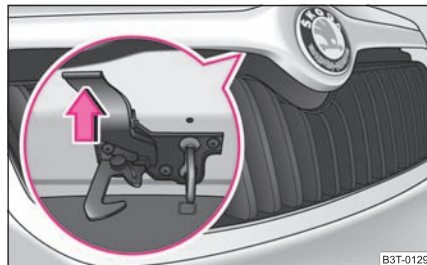

Fig. 186 Radiator grille: handle
- Press the locking button ⇒ fig. 186, the bonnet unlocks itself.